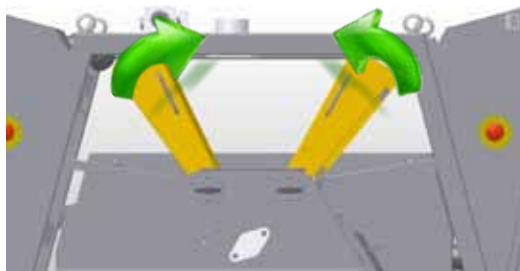

FIGURE 5.2: OPTICAL INSPECTION ZONE – SCAN SHIELDS
- q Remove the scan shielding (refer to Figure 5.2 where the scan shield is coloured in yellow for a good contrast) after the machine has been cleaned from the outside and removed any product remnants. You can easily remove the scan shields by grabbing the handles and lift it upwards.